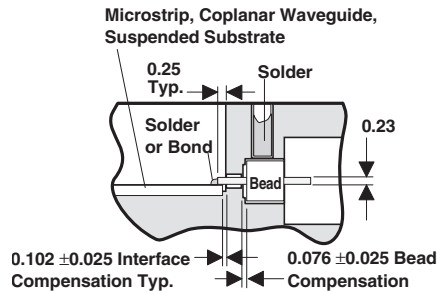

Figure 2. Glass Support Bead Installation
- Install microstrip into housing. Refer to Figure 2 for dimensional tolerances around glass support bead.